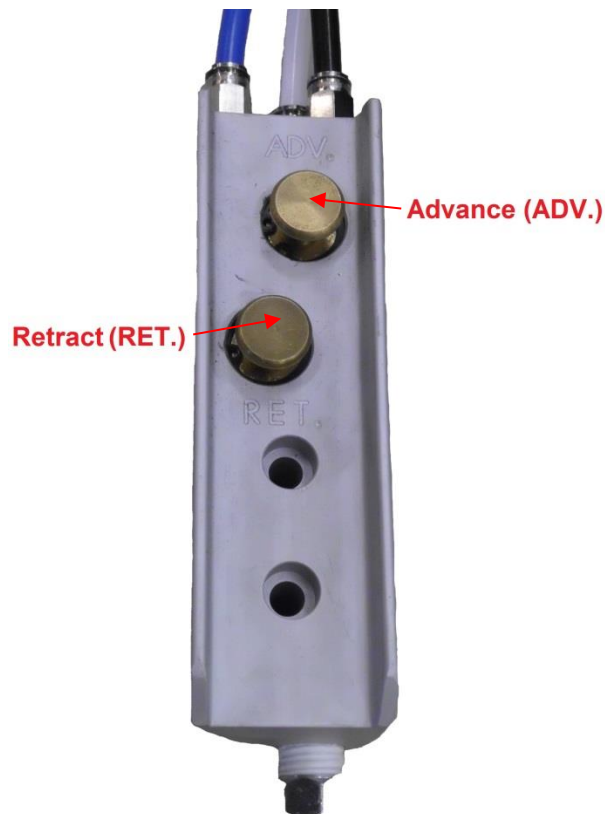

Figure 2 - DPR-223S – Remote Pendant
- 5.1.2 **Advance** - Press the remote pendant ADV. button (see Figure 2) to start the air motor and advance the cylinder until the desired pressure, load or position is reached. Releasing the ADV. button will stop the motor and hold the cylinder position.
- 5.1.3 **Retract** – Press the remote pendant RET. button (see Figure 2) to energise the retract air solenoid and retract the cylinder until the desired pressure, load or position is reached.